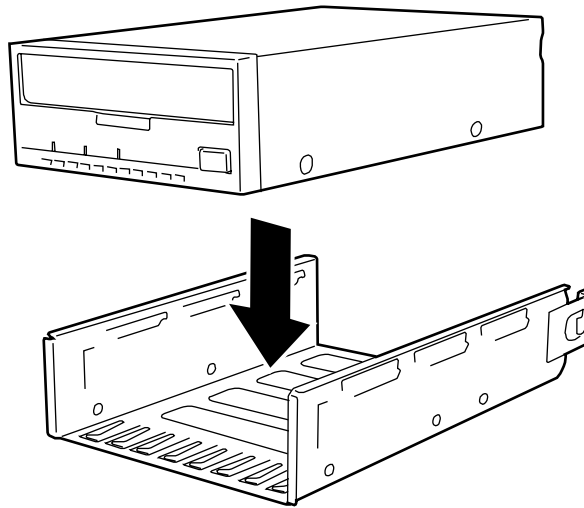

Figure 4-44. Placing the Backup Device into the Device Carrier
15. Place the backup device on the device carrier. See Figure 4-44.